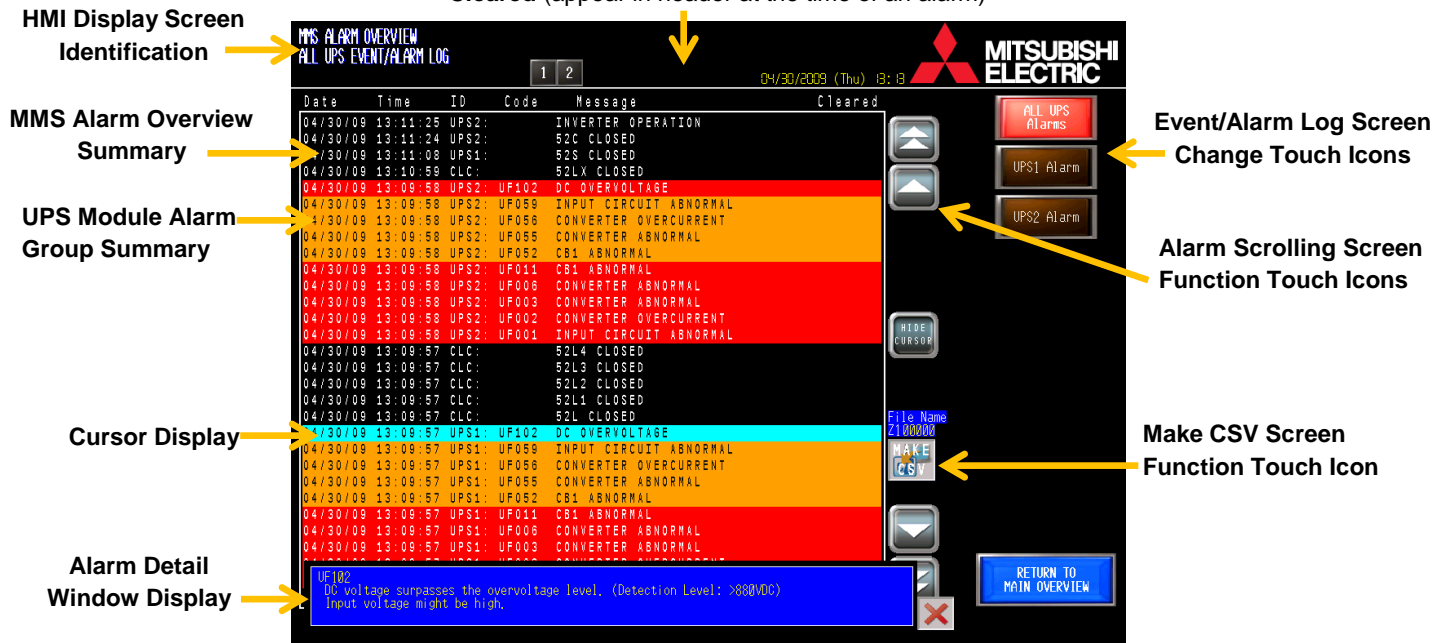

Figure 24: System Alarm and Event Overview Screen
**Total Number of log items that can be stored/displayed: 1000** (seen in Figure 24)